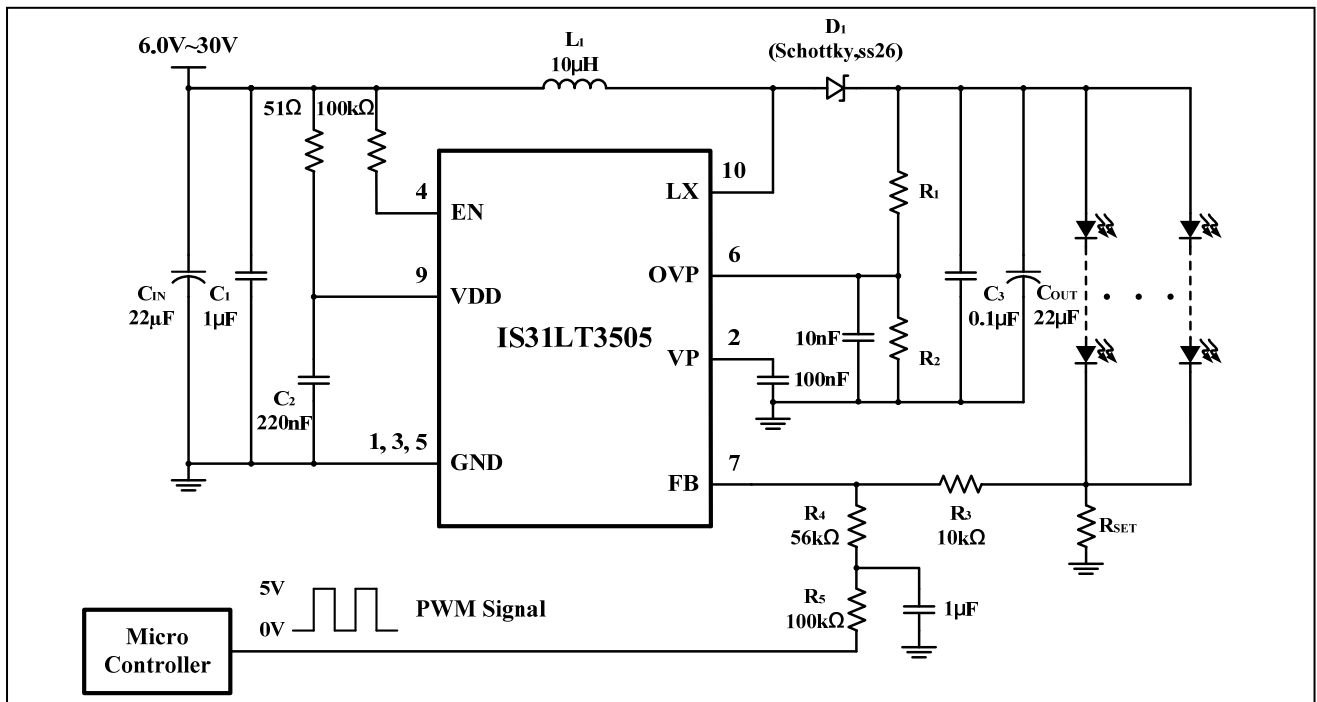

Figure 15 Application Circuit (Constant Current to Drive White LEDs With PWM Dimming)
A filtered PWM signal acts as the DC voltage to regulate the output current. The recommended application circuit is shown as Figure 15. In this circuit, the output ripple depends on the frequency of PWM signal. For smaller output voltage ripple, the recommended frequency of 5V PWM signal should be above 2kHz. To the fixed frequency of PWM signal and change the duty cycle of PWM signal can get different output current. The LED current can be calculated by the Formula (3). The internal feedback voltage V_{FB} is 0.3V (Typ.).
When it's the 5V PWM signal, the value of R3 should be 10kΩ. Refer to Figure 15.